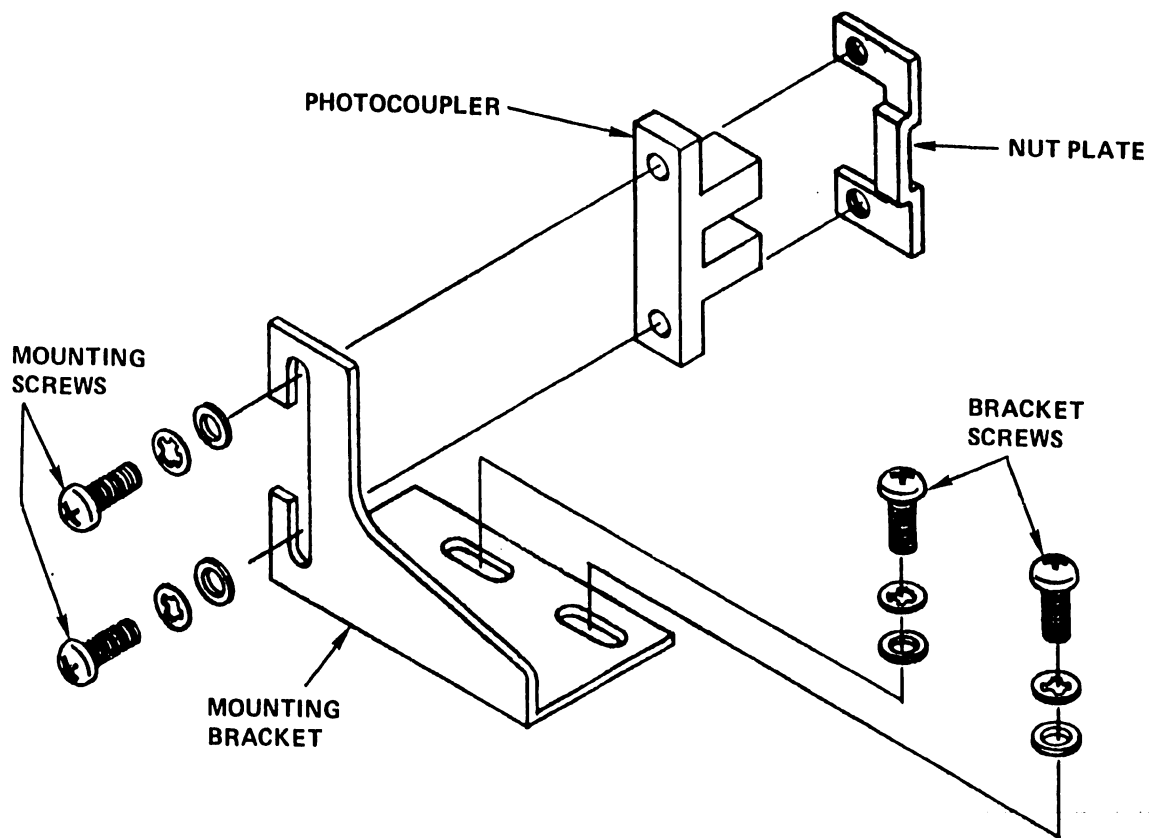

Figure 5-28. Photocoupler Assembly
- 3) For each photocoupler, remove both photocoupler mounting screws; dislodge and move the photocoupler back, taking care not to scratch the encoder fence. See Figure 5-28.